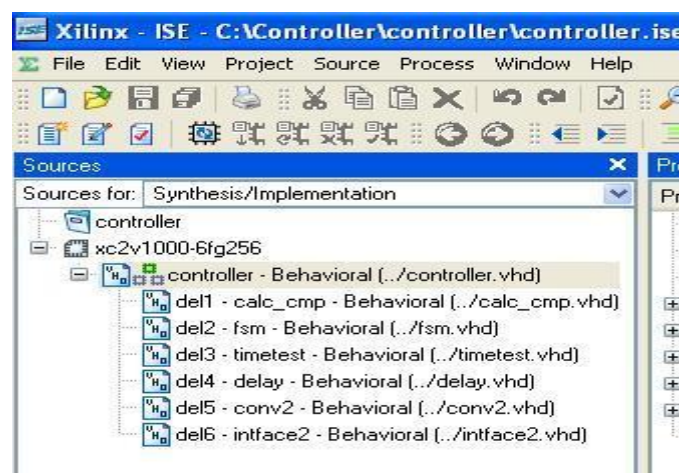

Fig 3.5: Hierarchy of sources
1. Now select **Project** → **Add source** instead of Add copy of source. Navigate to the folder where you stored VHDL files (controller & sub-files). These files are stored in a hierarchy which looks like as in Fig 3.5.